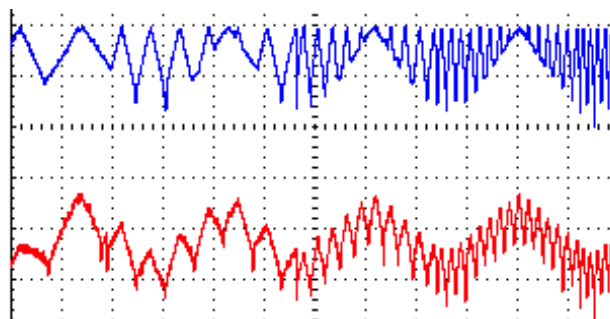

Figure 9c: OR jack vs. adding ENV outputs
- The OR jack will output the highest voltage value from either side's ENV jack at any given moment. One way to use this is to think of the OR jack as a mix out, and use the Scale knobs as level knobs and the Bi-Polar buttons to bring down the relative level of a channel (kind of like a mute button). See *Figure 9c*